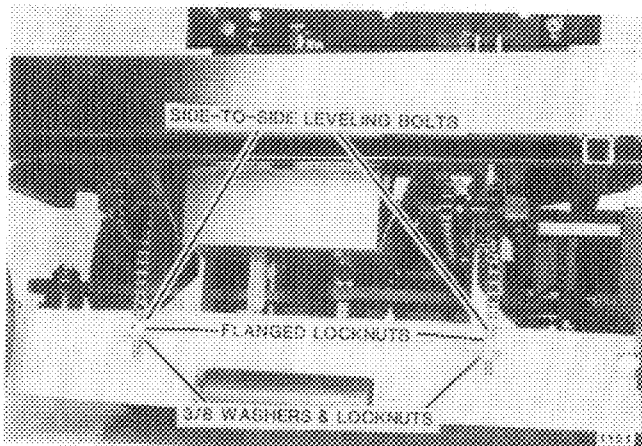

FIG. 9. Side-To-Side Level Adjustment
2. Side-to-side leveling of mower deck is accomplished by lowering mower to mid cutting height and adjusting threaded eye bolts at front of deck (Fig. 9).
Park mower on a level surface and position each side mower blade tips side-to-side. Adjust chain bolts so that mower is level, or distance between right and left blade tip ends and surface is the same (Figs. 9&10).